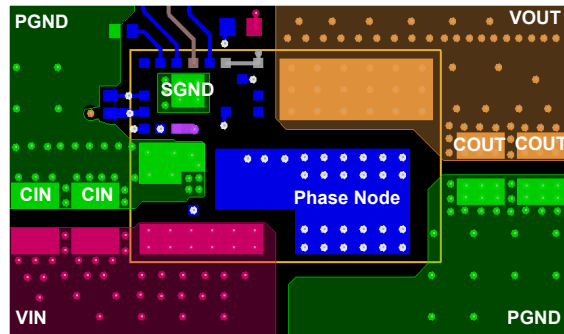
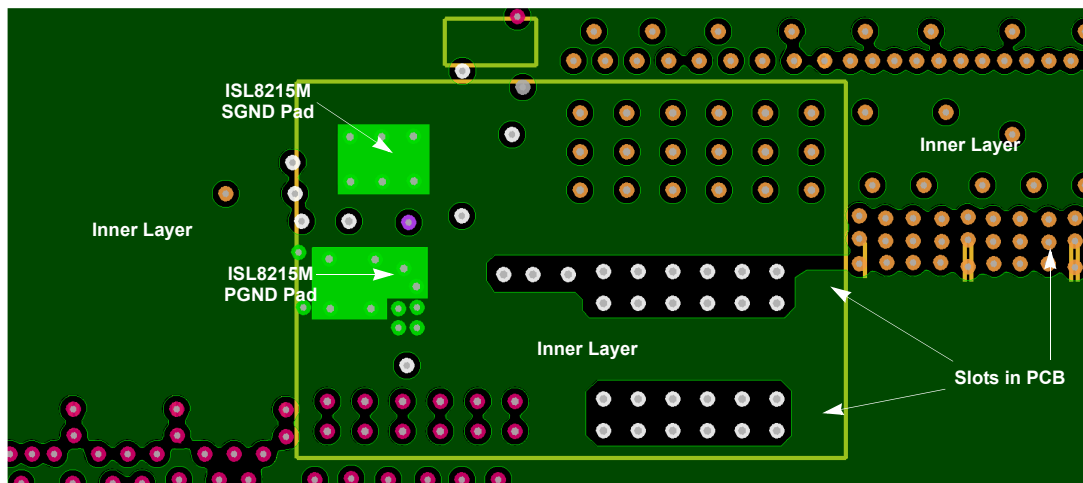

Figure 46. Layout Example - Top Layer
Figure 48. Layout Example - SGND is Connected to PGND Through Internal Layer
- (1) Place the input capacitors and high frequency decoupling ceramic capacitors between VIN and PGND, as close to the module as possible. The loop formed by the input capacitor, VIN pad, and PGND must be as small as possible to minimize the high frequency noise. Place the output capacitors close to the load. Use short, wide copper planes to connect the output capacitors to the load to avoid any parasitic inductances and resistances. A layout example is shown in Figures 46 and 47 on page 30.
- (2) VIN, VOUT, and PGND should use large copper planes to minimize conduction loss and thermal stress. Use enough vias to connect the power planes in different layers.
- (3) Use full ground planes in the internal layers (underneath the module) with shared SGND and PGND to simplify the layout design. Renesas recommends using slots, as shown in Figure 48 on page 30, to ensure that the switching current avoids the SGND pad of the module. Use as much GND plane as possible for the layer directly above the bottom layer (containing components like input caps, output caps, etc). Use the top and bottom layer to route the EN, VCC, and PGOOD signals.
- (4) For a switching frequency of 300kHz and a 42V input, connect a 4.02Ω 1206 resistor and a 270pF 100V X7R 0603 capacitor in series from PH to VIN. Derate the resistor size for switching frequencies higher than 300kHz. Calculate the power dissipated in resistor R5 (P_{cal}) by using the formula $C \cdot V^2 \cdot f$, where: